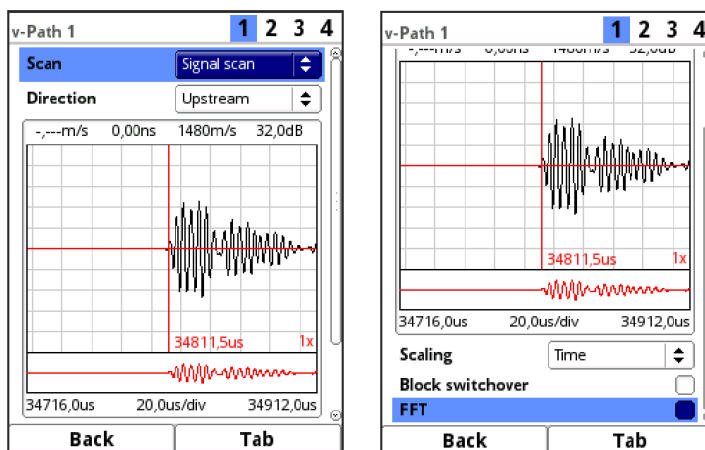

Fig. 41-2 Signal scan
- >Scaling<** of chart (Fig. 41-2):